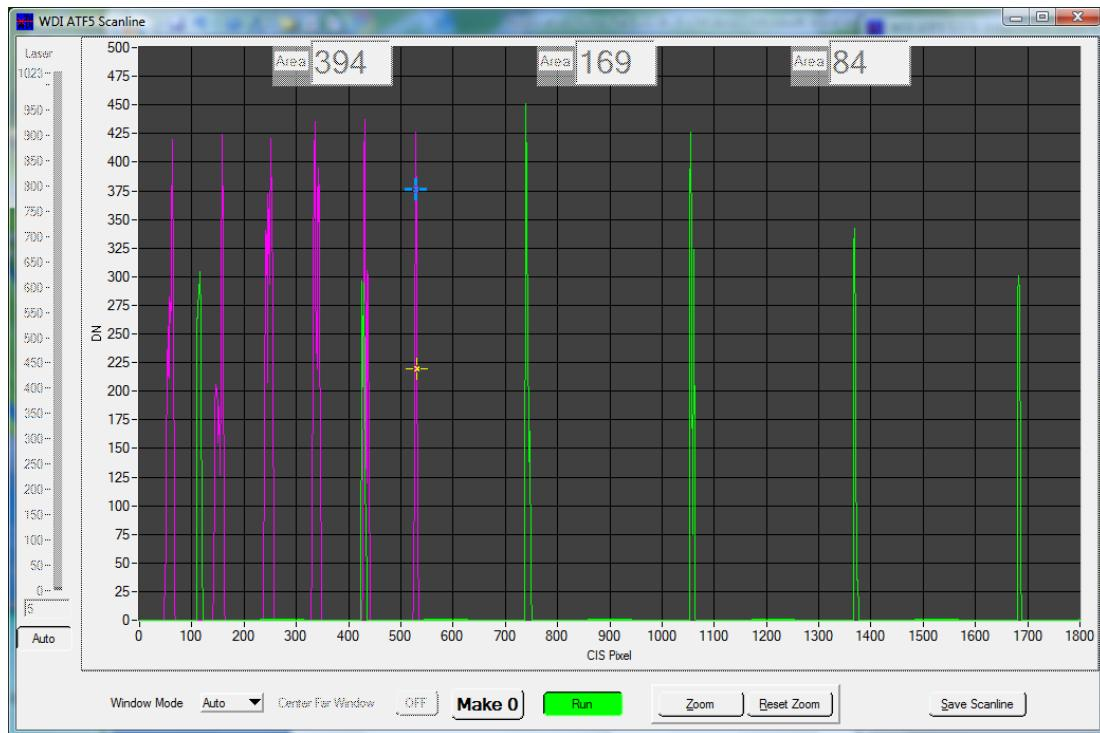
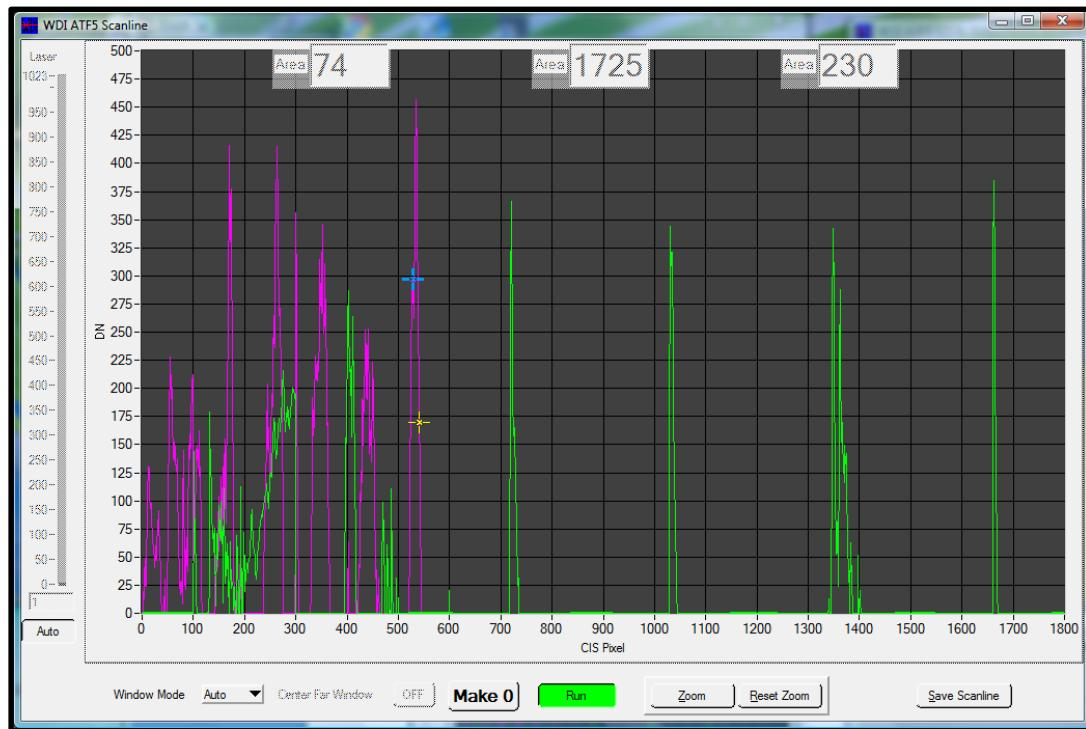

Figure 36 Clear, visible, and clean scanlines indicate successful Make0
Figure 37 Two wide and noisy scanlines indicate unsuccessful Make0
- All scanline peaks are clearly visible and clean (Figure 36). If one or more appear significantly smaller, wider, or noisier, Make0 has failed see Figure 37.